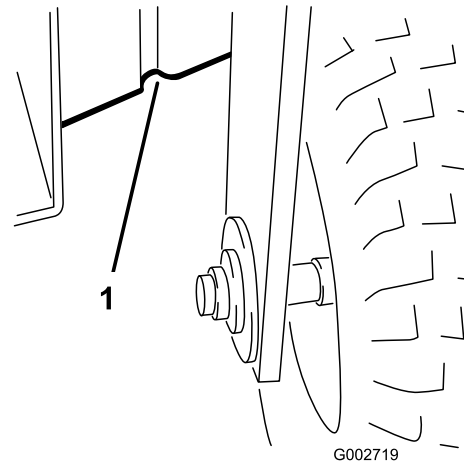

Figure 22
- Front—under the frame behind the front wheel (Figure 22).